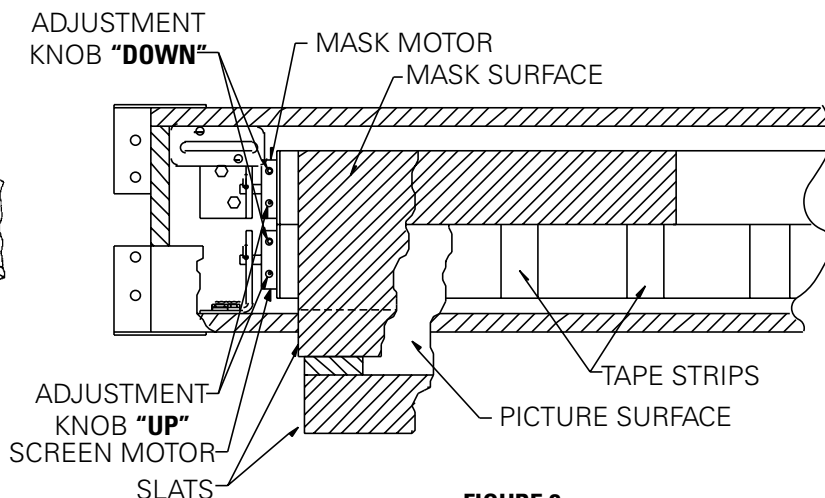

FIGURE 2
7. Carefully remove tape strips securing picture surface around roller. Slats should move freely (Fig. 2).
3. When the screen stops, turn the "down" limit knob (Fig. 2) one-quarter turn counterclockwise. Test by raising picture surface approximately two feet, then lower again. Repeat until desired picture surface position is attained.
4. Turn the "down" limit knob (Fig. 2) one-quarter turn clockwise. Test by raising picture surface approximately two feet, then lower again. Repeat until desired picture surface position is attained.